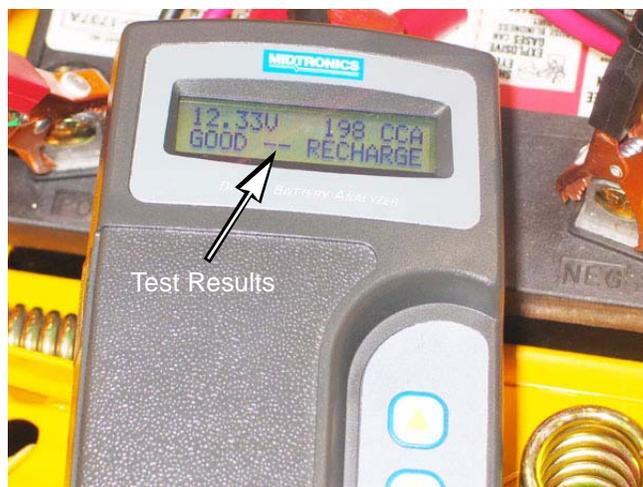

Figure 7.57
4. Read the display of the tester. The tester's display will indicate if the battery passed or not. See Figure 7.57.